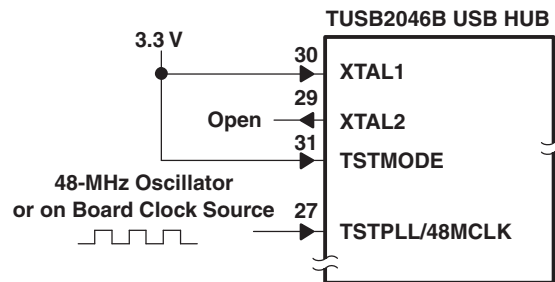

Figure 7. 48-MHz Input Clock Configuration
- A 48-MHz input clock configuration is shown in Figure 7.